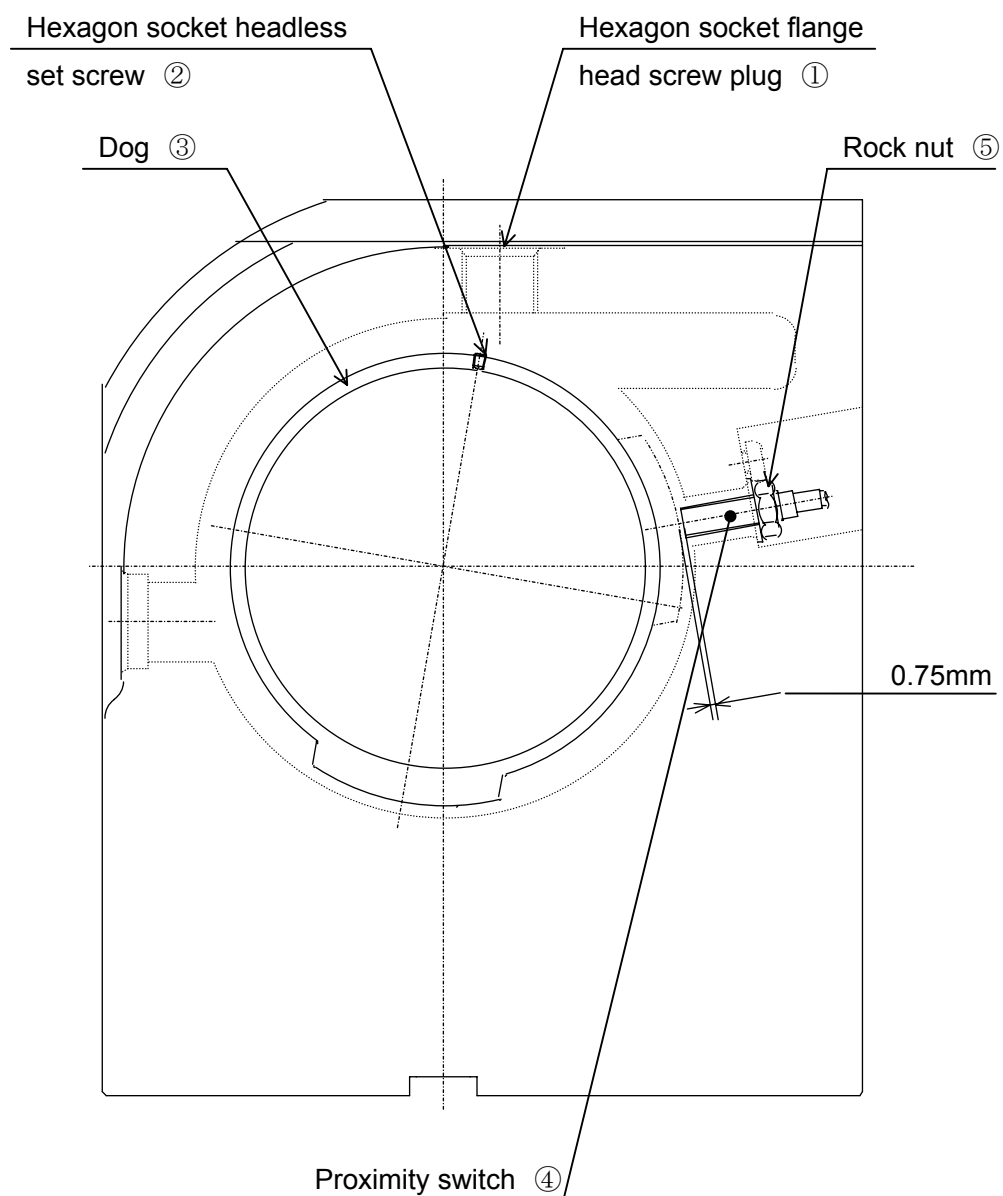

Fig.4
11-2. ZRN device Adjustment [See Fig.4]
1) Proximity Switch [See Fig.4]